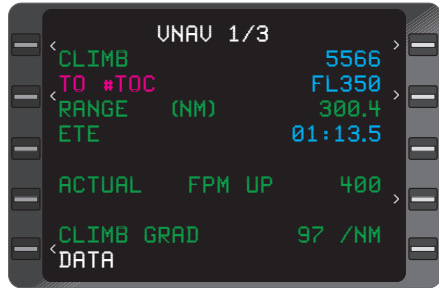
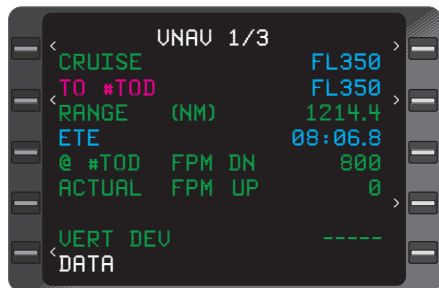
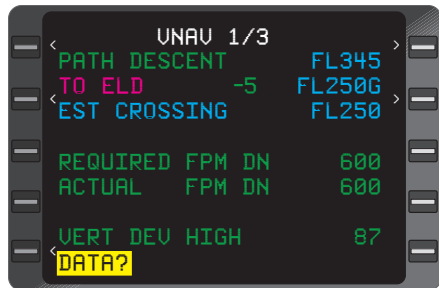

Figure 2-38
Figure 2-39
Figure 2-40
- **CLIMB:** Indicates climb required to cruise altitude or to next altitude restriction. (Figure 2-38)
- **CRUISE:** Indicates holding altitude while enroute to Top of Descent (**#TOD**) point. (Figure 2-39)
- **PATH DESCENT:** Indicates descent via programmed Flight Path Angle. Vertical Deviation will be enabled on the Vertical Deviation needle and the **VERT DEV** field is active. The VERT DEV field will not be displayed if there is no vertical path programmed. (Figure 2-40)
- **#TOC:** Indicates the Top of Climb target altitude. This point becomes the Vertical **TO** Waypoint once the aircraft has passed the final climb constraint waypoint and is climbing. (Figure 2-40)
• **#TOD**: Indicates the Top of Descent target altitude where the aircraft should begin its descent in order to arrive at the Descent Reference Waypoint at the required altitude. (Figure 2-39)
Altitude trajectory computed by the system to the Vertical **TO** waypoint based on current groundspeed and vertical speed (Figure 2-40). This field will display **RANGE (NM)** in miles and tenths when the Vertical **TO** Waypoint is a **#TOD** or **#TOC** profile point. (Figure 2-39)
The estimated time enroute in hours, minutes and tenths, from the aircraft present position to the Vertical **TO** Waypoint, **#TOC** or **#TOD**. (Figure 2-39)
Required vertical speed in feet per minute to make the altitude constraint based on current ground speed. **UP** indicates a positive vertical speed and **DN** indicates a negative vertical speed (Figure 2-40). This field will display **@#TOD FPM DN** when the Vertical **TO** Waypoint is the Top of Descent and indicate the descent target vertical speed. (Figure 2-39)
Actual vertical speed in feet per minute. **UP** indicates a positive vertical speed and **DN** indicates a negative vertical speed. (Figures 2-39 and 2-40)
Vertical deviation of aircraft from this descent path in feet. **HIGH** indicates aircraft is above the path (Figure 2-40); **LOW** indicates aircraft is below path. **CLIMB GRAD xxx/NM** is displayed during **CLIMB** mode to indicate current aircraft climb performance in feet per nautical mile. (Figure 2-38)
A prompt to access the **VNAV DATA** Page, by placing the cursor over the **DATA** field and pressing the **ENT** Key. (Figure 2-40)